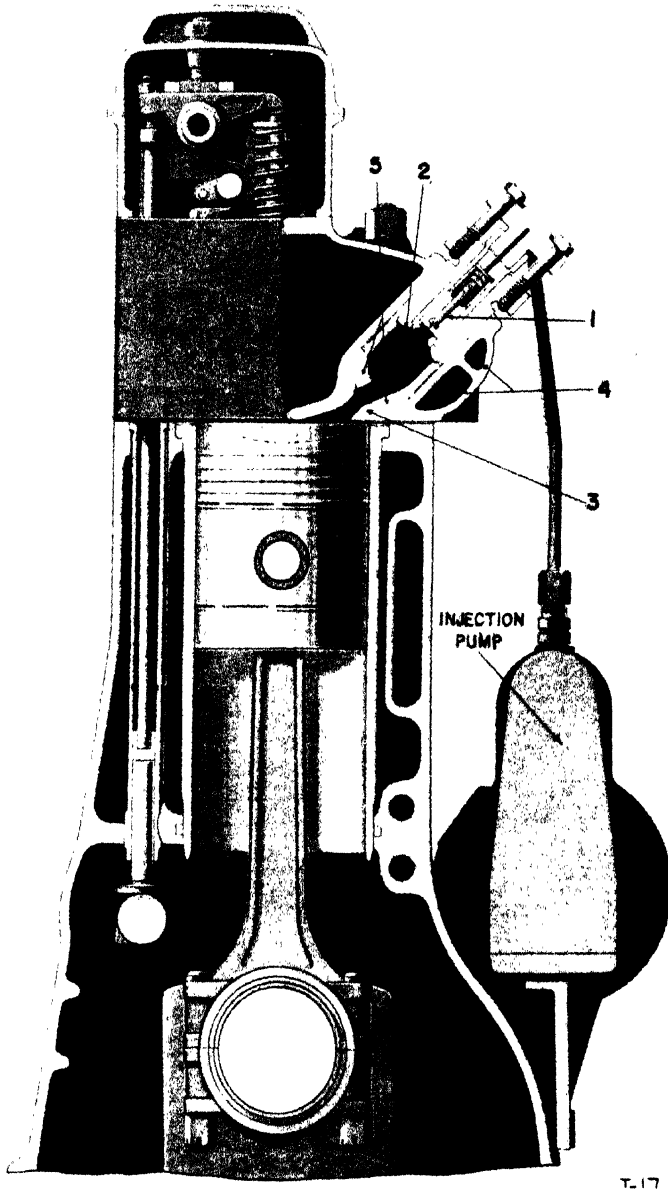
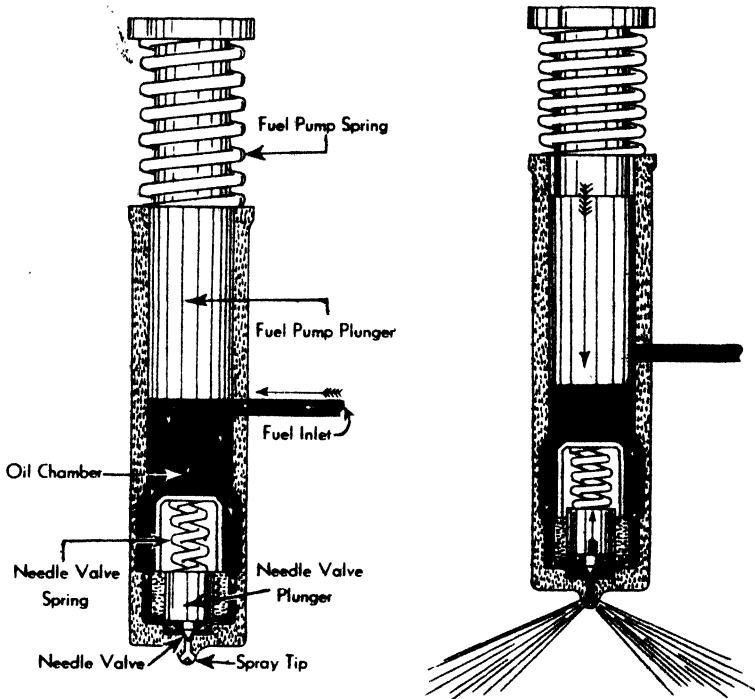

FIG. 190A. FUEL INJECTOR FOR DIESEL ENGINE. (Courtesy, International Harvester Company.)
FIG. 190B. FUEL INJECTOR FOR DIESEL ENGINE.
der are the intake and exhaust valves and a spark plug (in a diesel engine, the spark plug is replaced with a fuel injector) Fig. 190A.
The heart of the diesel engine is the fuel injection system which must, under high pressure, measure and force the exact amount of fuel to each cylinder at exactly the proper time in every cycle of each piston. A four cylinder, four cycle diesel engine, running 1500 r.p.m. requires 3000 fuel injections per minute — 180,000 injections per hour. If this engine uses two gallons of fuel an hour, the fuel must be divided into 180,000 parts and forced into the cylinder against the compression pressure of 500 or 600 pounds per square inch. Modern engines use the solid injection system. This consists of a small pump and nozzle for each cylinder, shown in Fig. 190B. The pump is so accurately made that it can produce pressures up to 20,000 pounds per square inch to force oil through the small openings in the nozzle at 780 miles per hour. Referring to Fig. 190A the fuel is forced through the valve (1) into the pre-combustion chamber (2) where it is partially burned. It is then blown through the large opening (3) into the main combustion space for complete combustion. The nozzle and
Fig. 190B illustrates the action of the fuel pump and injector. Oil enters the fuel inlet, filling the injector. As the plunger moves down, the fuel inlet opening is covered.
engine the fuel and air are mixed before they enter the cylinder (by the carburetor): in the diesel engine the fuel and air are mixed within the cylinder. The gasoline engine compresses the mixture of gasoline and air which is ignited by an electric spark. The diesel engine compresses only a charge of air (the heat caused by this compression raises the temperature of the compressed air to about  $1000^{\circ}\text{F}$ ), and the fuel, then forced into the cylinder by an injector (Fig. 190B) is ignited by the heat of compression.